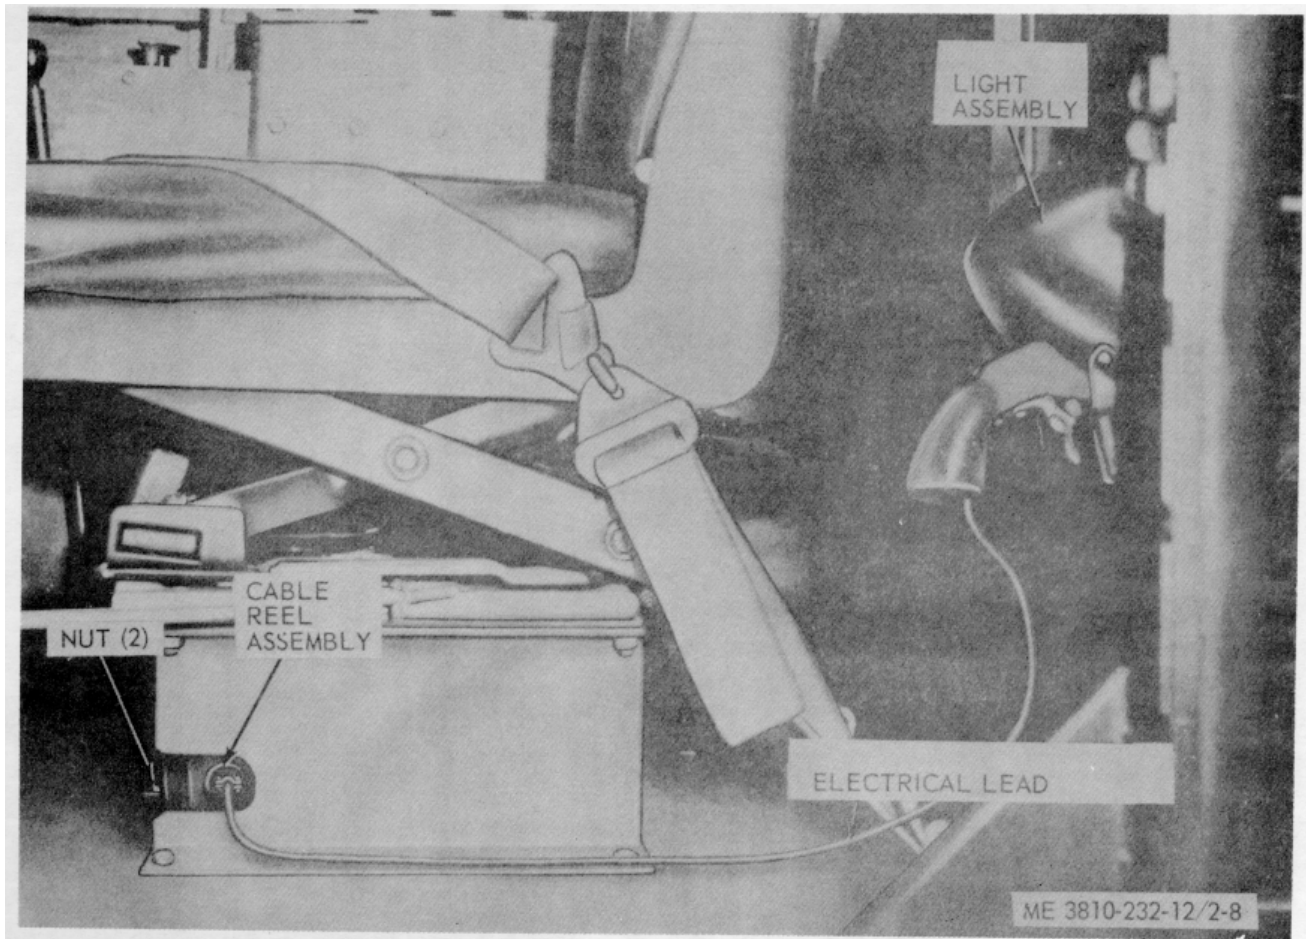

Figure 2-8. Carrier trouble light and reel assembly (model 2385).
(1) Refer to figure 2-8 and install reel assembly with nuts.
(2) Install light assembly and connect electrical leads.